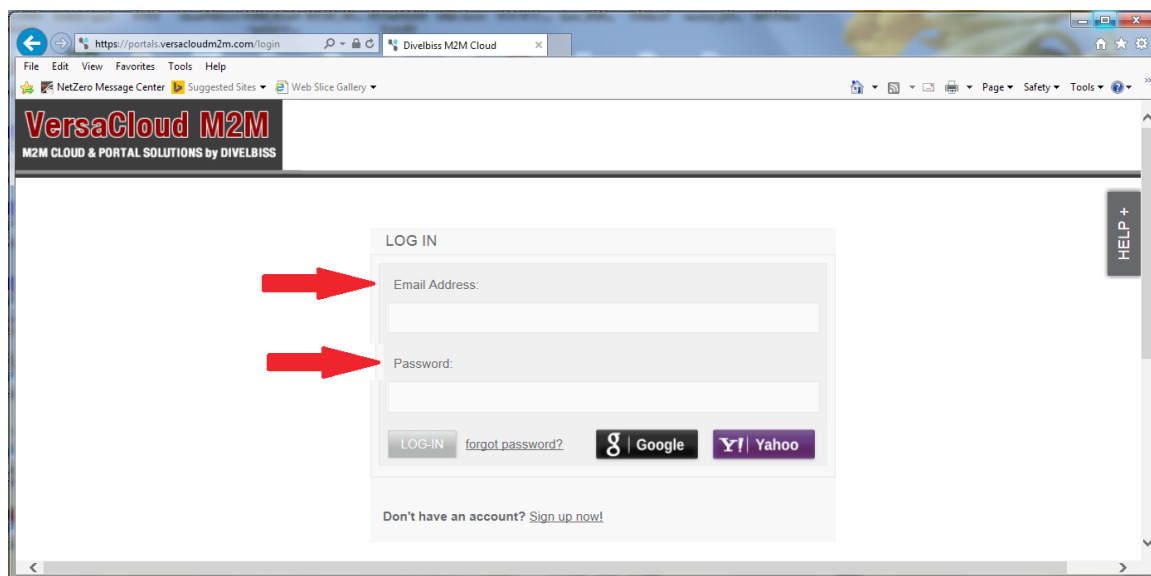

Figure 1 - Portal Log-in
1. With a completed contract and enrollment worksheet, your VersaCloud M2M portal will be provisioned. Go to **<https://portals.versacloudm2m.com>**. Log-in using the provided credentials (username and password provided by Divelbiss Corporation). Refer to Figure 1.